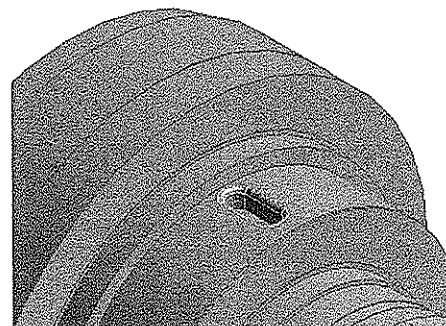

Figure 7-76 Selecting fillets
28. Select the fillets present on the slot, as shown in Figure 7-76, and then choose the **Apply** button in the **Faces** selection box. On doing so, 4 is displayed in the **Faces** selection box, which indicates that four faces have been selected for the **Face Delete** operation.